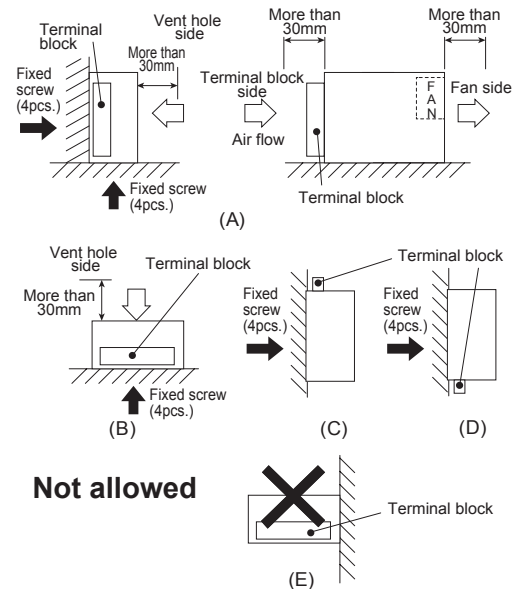

Fig.3.2 Installation method
- When mounting the power supply with screws, it is recommended that this be done as shown in Fig.3.2. If other methods are used, be sure the weight of the power supply is taken into account.